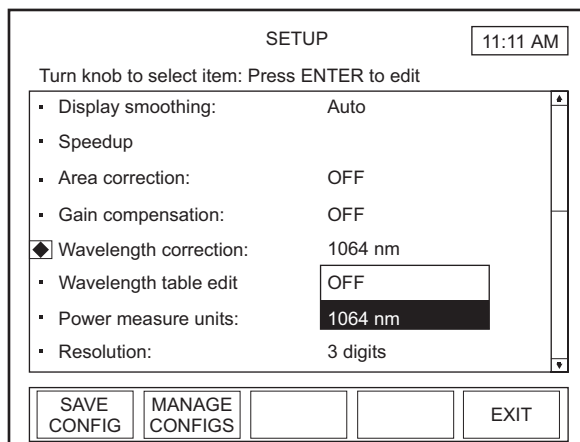

Figure 55. SETUP: Wavelength Correction
2. Press the ENTER/SET button to display a dropdown list of available wavelengths (similar to the list shown in Figure 55, above).